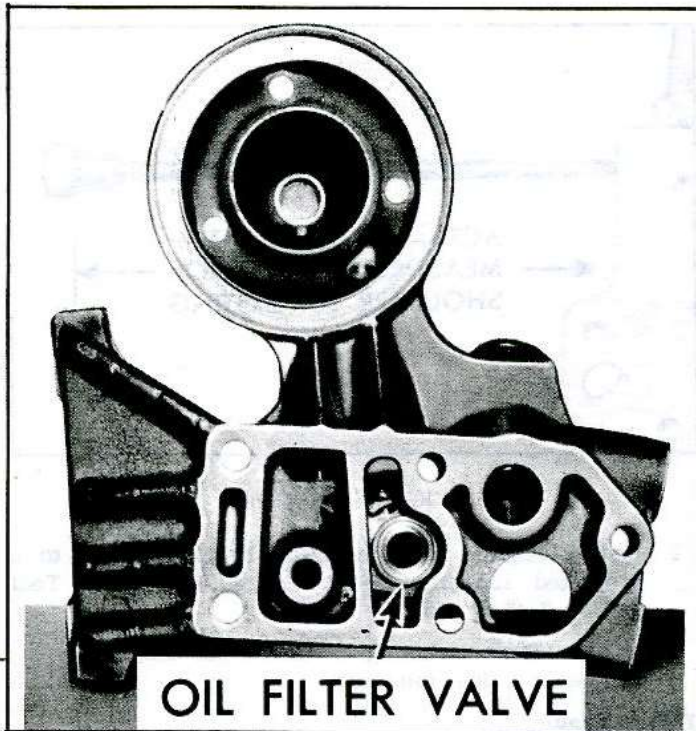

Fig. 111—Oil Filter By-Pass Valve
2. Install a new oil filter by-pass valve with the spring up in the adapter housing (fig. 111).